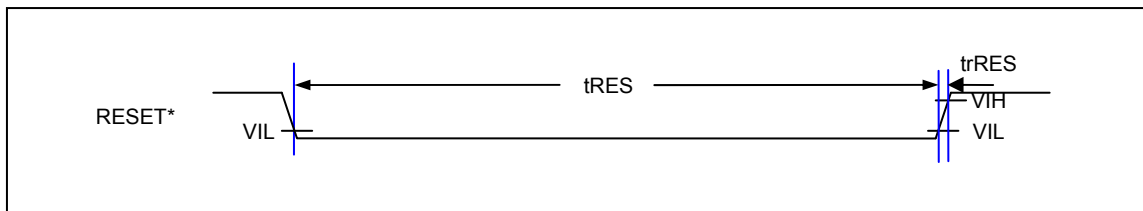

Figure 85 Reset operation
**Table 104** See Figure 85 (Condition: IOVcc = 1.65 to 3.30V, Vcc = Vci = 2.50 to 3.30V)